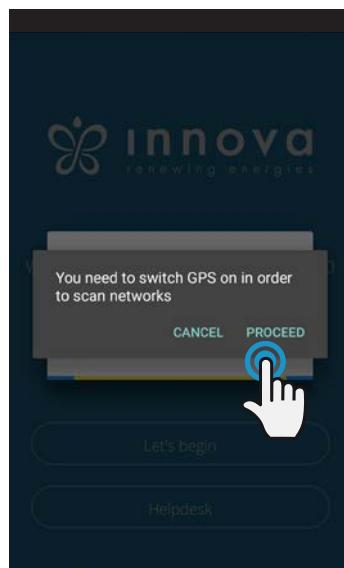

Figure 2-5
**Note:** If the App asks you to be connected to the position, to accept for facilitating the search of the conditioner. (Figure 2-5)